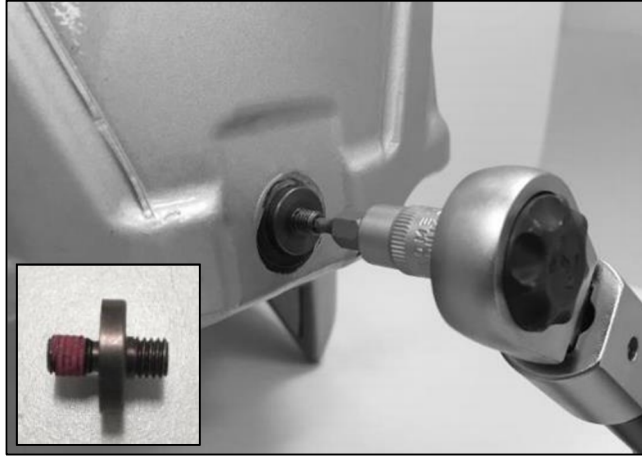

FIG. 15
19. Screw in the double screw by hand **without** sealant and tighten using a torque wrench to 4 Nm / 35.4 in-lb (FIG. 15).